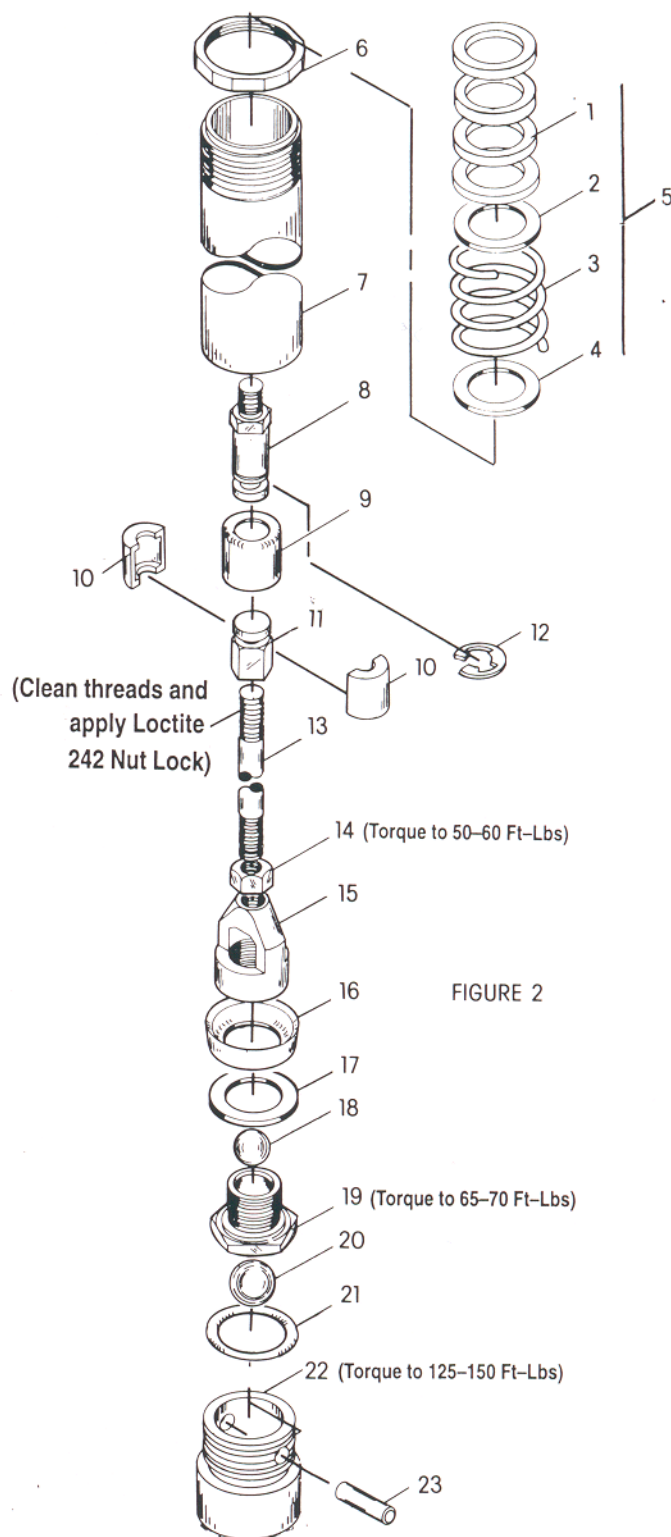

FIGURE 2
- Order Lower Pump End Service Parts Separately. See Fig. 2.